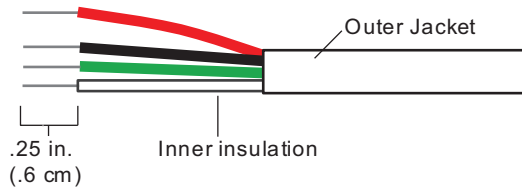

Fig. 5 — Installing ZS Sensor Cables
2. Partially cut, then bend and pull off the outer jacket of the Rnet cable(s). Do not nick the inner insulation. Strip about 0.25 in. (0.6 cm) of the inner insulation from each wire. See Fig. 5 for ZS sensor cables installation.